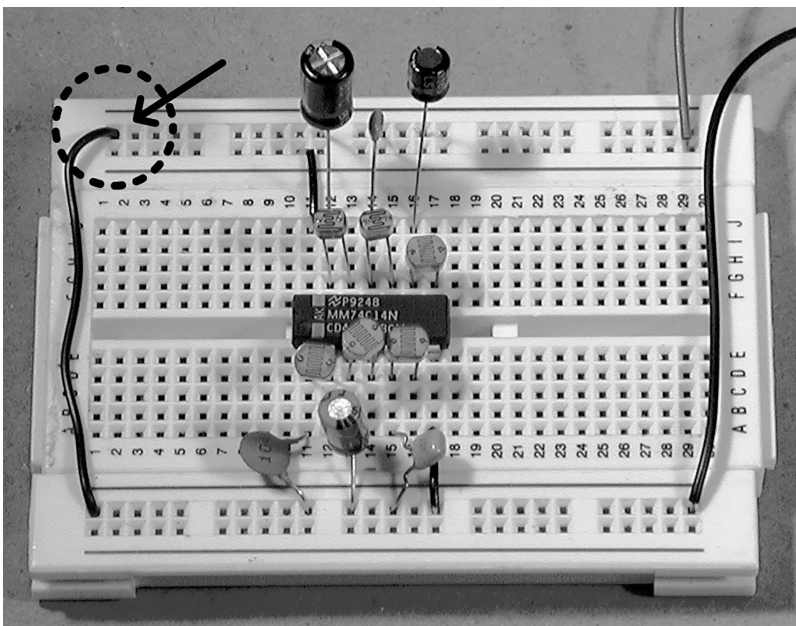

Figure 13.20 Six-voice oscillator, with capacitors connected to secondary ground bus parallel to + voltage bus along upper edge of breadboard.
- Remember when working on the “top” side of the chip (pins 8–14) that the capacitor must go between the chip and ground, not to the + supply that mirrors the ground bus on the upper side of the board. If there are two parallel horizontal buses at the top and bottom of the board, you can connect a wire jumper between the lower ground bus and the upper bus that is not being used for +9 volts; the second upper bus is now an additional ground bus into which you can insert the legs of the capacitors used on the upper half of the chip (Figure 13.20). Be careful to connect from the lower ground bus to the upper line designated for ground, not the 9-volt bus: if you accidentally link the ground and power buses together with a wire, you will soon have a very hot, very dead battery.